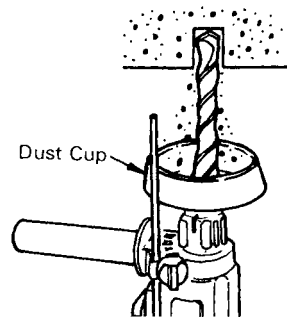

Fig. 3
- (1) The grip can manually be rotated with an angle of 60°. Fully turn the grip clockwise so that ■ mark in the grip is aligned with ■ mark in the front cap.
- (2) Align the round groove of the drill bit with the ☞ mark on the front cap and insert it until it touches the rear of the hole.
- (3) Turn the grip in the direction of "Lock →" so that ■ mark in the grip is aligned with ● ■ mark in the front cap. The drill bit is locked. Remove the drill bit in the reverse order to installation. Always use HITACHI genuine drill bit.
6. Mounting the dust cup (Fig. 3)
When it is necessary to perform drilling with the drill bit facing upward, such as drilling a hole in a ceiling, use of a dust cup will minimize falling particles and facilitate drilling work. Mount the dust cup to the drill bit as shown in the Fig. 3. When using a large diameter drill bit, enlarge the center hole of the dust cup as necessary.